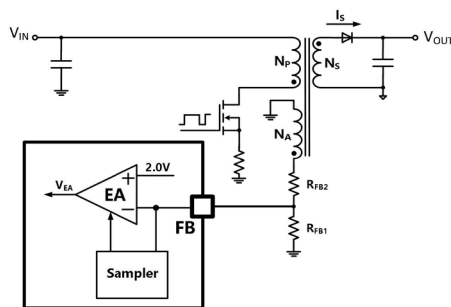
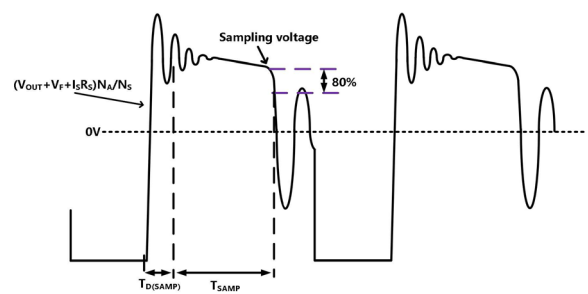

Fig. 16
Fig. 17
RVPW016 senses the output voltage of the switching power supply via the auxiliary winding of the transformer. A resistor divider connected from the auxiliary winding to the FB pin enables voltage sampling during the transformer's demagnetization stage. During this phase, the sampled voltage is applied to the inverting input of the internal error amplifier (EA), while a fixed reference voltage, $V_{REF(REG)} = 2V$, is applied to the non-inverting input. The EA amplifies the difference between these two voltages to produce a modulation voltage, V_{EA} , which determines the duty cycle of the converter. As illustrated in Figure 16, this V_{EA} output modulates the switching behavior of the power supply. The auxiliary winding voltage waveform referenced in the operation is shown in Figure 17. Once the feedback loop stabilizes, the sampled voltage at the FB pin equals the internal reference voltage of 2V, enabling accurate output regulation. Based on this relationship, the following output voltage formula can be derived:
Therefore, for designs requiring high output voltage accuracy, DCM operation is recommended. In contrast, in Continuous Conduction Mode (CCM), the output voltage decreases as load increases due to the influence of $I_S R_S$. Regardless of conduction mode, RVPW016 detects the end of the transformer demagnetization stage based on a 20% sudden drop in FB voltage. When this drop occurs, the internal sampler latches the output of the differential amplifier (EA). Because EA has an intentional delay in its response, the latched voltage effectively reflects the FB voltage just prior to the drop, ensuring sampling accuracy. During the early stage of demagnetization-after the power transistor turns off-the FB voltage may oscillate significantly due to resonance between the transformer's leakage inductance and parasitic capacitance. To avoid false sampling, a sampling delay $T_{D(SAMP)}$ is implemented during which the sampler is inactive. Accurate sampling occurs only after this delay. During the active sampling period, the peak-to-peak amplitude of the FB resonance should be limited to within 20% (approximately 400 mV) of the FB platform voltage. Note that the voltage reflected to the auxiliary winding must be adjusted according to the resistor divider ratio. The sampling delay $T_{D(SAMP)}$ is related to the oscillator frequency set by the external R_T resistor. For example, when $R_T = 22k\Omega$, $T_{D(SAMP)} \approx 252ns$, as shown in Figure 16. To ensure accurate output voltage sensing, filter capacitors should not be placed in parallel with the FB pin to GND, as this may distort the FB waveform, especially in high-frequency PSR (Primary-Side Regulation) applications operating in the hundreds of kHz. Additionally, the parasitic capacitance of the oscilloscope probe can interfere with FB waveform integrity under light-load conditions due to shortened demagnetization time, potentially causing output voltage deviations. For optimal waveform fidelity and acceptable power consumption in the voltage divider network, R_{FB1} is recommended to be in the range of 2.5kΩ to 6kΩ, with a typical value of 4kΩ.